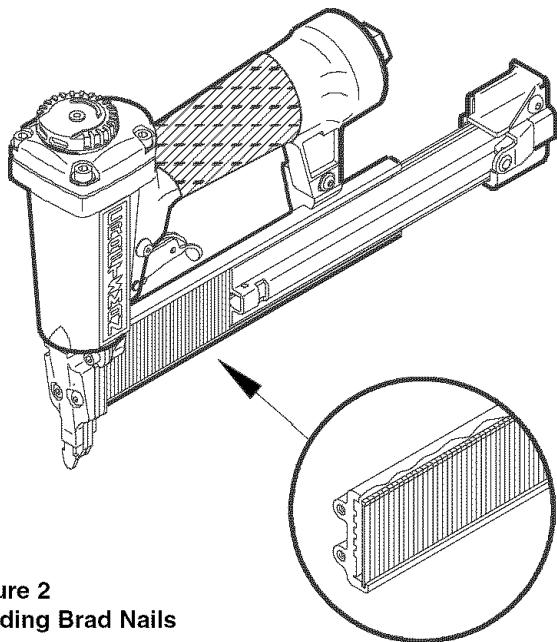

Figure 2
Refer to Figures 2 & 5 (pages 3 and 6).
- Depress latch (Fig. 5, No. 58) and slide magazine cover (Fig. 5, No. 55) backwards (see Figure 2). Insert fasteners into magazine. Position fasteners at bottom of magazine with heads toward top of tool.